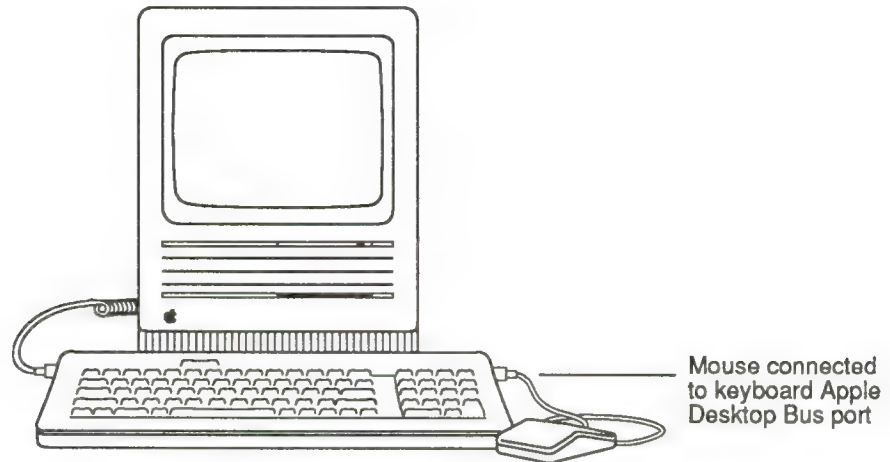

Figure 8. Connecting the mouse to the Macintosh SE
5. Plug the mouse cable into the ADB port on other side of the keyboard, as shown in Figure 8.